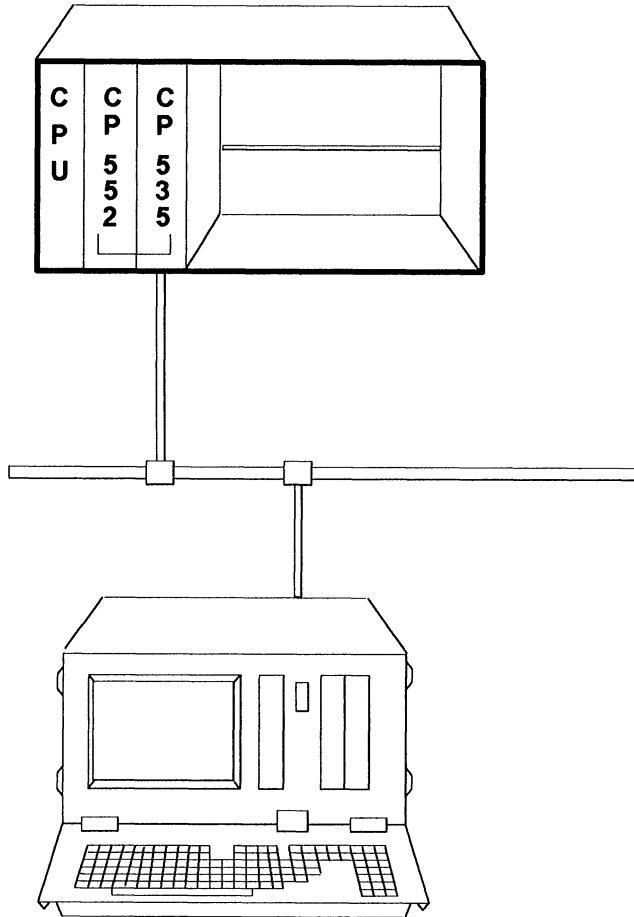

Fig. 1-16 Single diagnosis on the SINEC H1 bus
- **centrally** via the AS 511 interface of the CP 552, the PG channel of the CP 535 and the SINEC H1 bus (Figs. 1-16 and 1-17).